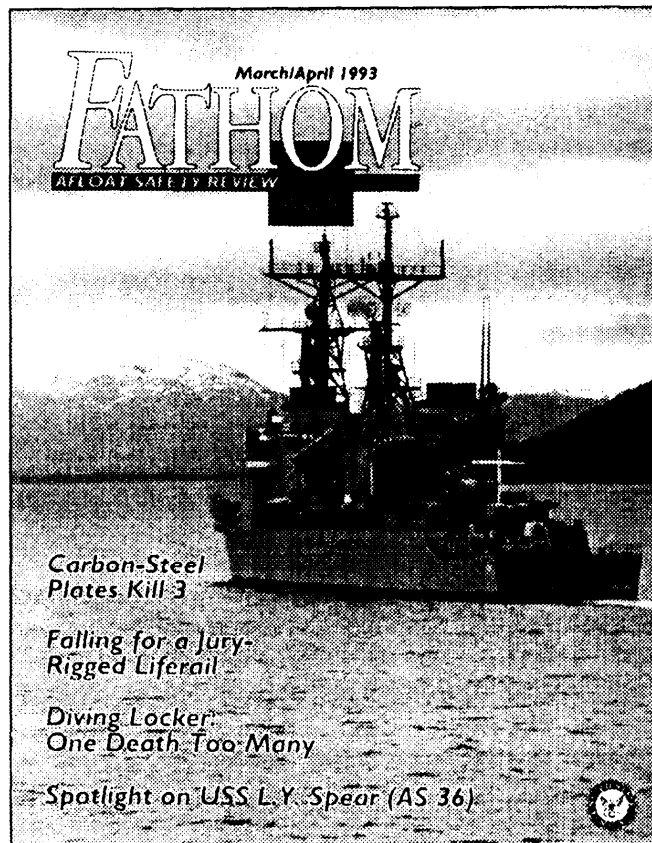

Figure 1-7.—Front cover of *FATHOM*.
*FATHOM* is an afloat safety review periodical in magazine form. It is published bimonthly by the Naval Safety Center in Norfolk Virginia. *FATHOM* contains articles pertaining to safety issues of concern to surface and submarine forces and is distributed primarily to these forces. Figure 1-7 shows a front cover of *FATHOM*.